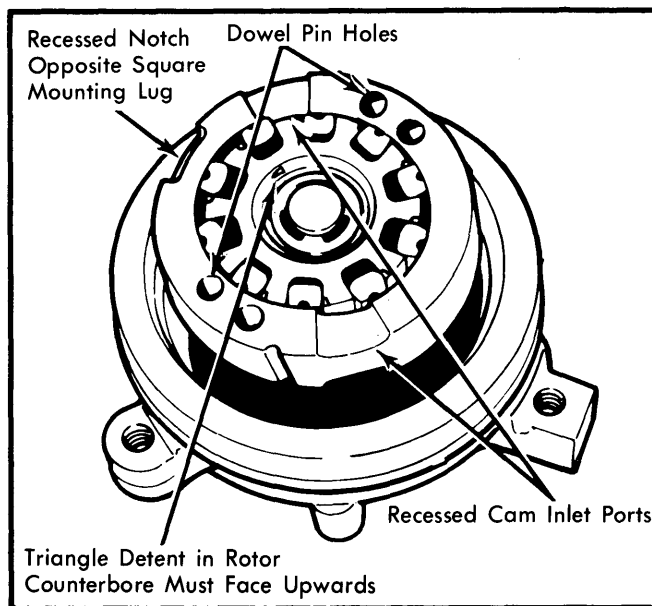

Fig. 4 Assembling Cam and Rotating Assembly
**Reassembly** - 1) If rotating group was disassembled, place rotor on shaft with triangular detent facing upward. See Fig. 4. Install retaining ring at end of shaft. Place insert cam over rotor with recessed notch on cam facing up.
5) Install rotating assembly over dowel pins and into housing as shown in Fig. 4. Place upper pressure plate over dowel pins with recess directly over recessed notch on cam insert as shown in Fig. 5.